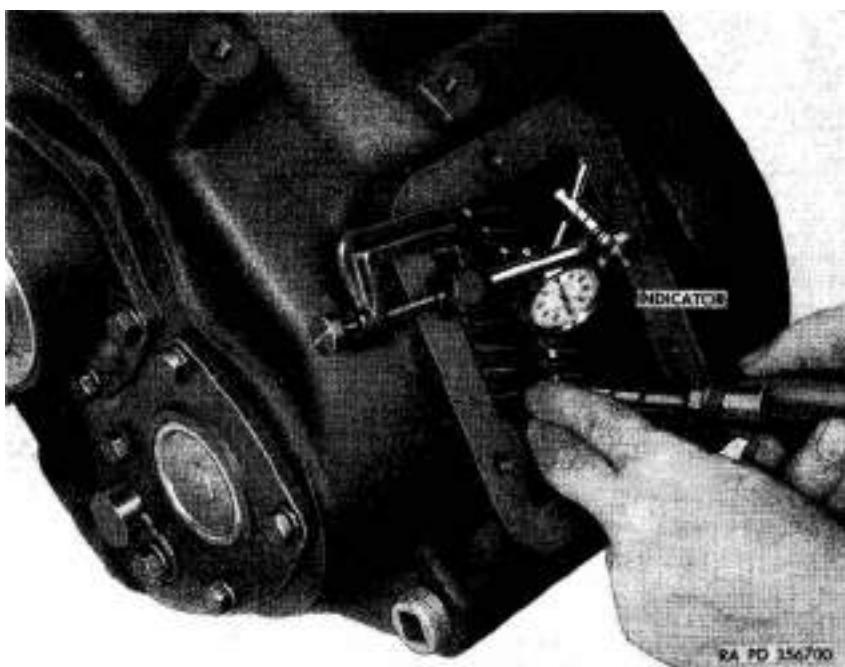

Figure 122. Checking power-take-off gear backlash with indicator.
- (2) Remove power-take-off opening cover from right side of transmission. This is necessary in order to check backlash between power-take-off idler gear and transmission countershaft gear.
- (3) Install a dial indicator (fig. 122) on right side of transmission to contact countershaft gear. Insert a screwdriver through right side of transmission to prevent power-take-off idler gear from moving. When idler gear is locked with screwdriver, movement of transmission